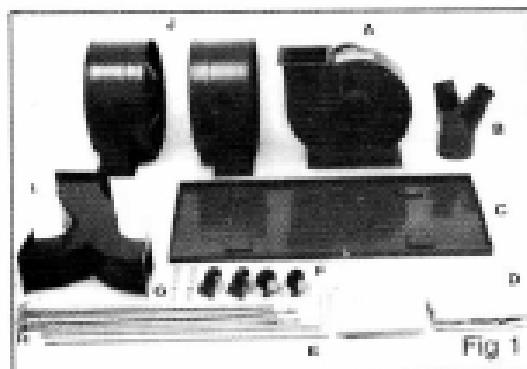

Fig 1
All parts needed to assemble your new Dust Collector have been included. These parts consist of the Fan/motor assy (A), Shutter (B), Base plate (C), four Bags (D), two Bag supports (E), four Casters (F), two Support inserts (G), two Supports (H), Connector (I), two Collectors (J), Nuts, Screws, Washers, Spring washers, and Wrench. Fig 1.